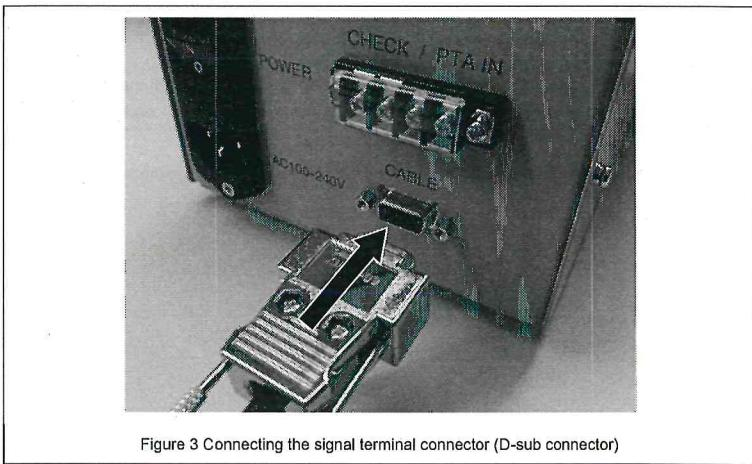

Figure 3 Connecting the signal terminal connector (D-sub connector)
- 2) Plug the D-sub connector of the MIP cable into the signal terminal port on the OCR checker. (See Figure 3 below.)